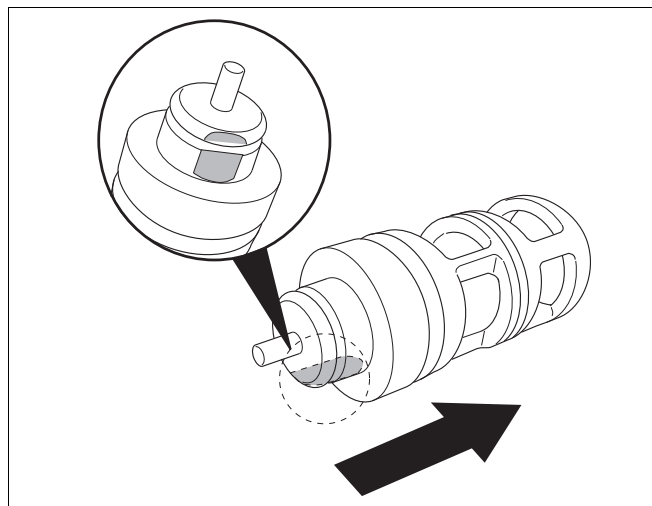

fig. 98 Internal mechanism of three-way valve
- Install the new internal mechanism in reverse order. Making sure that the flat side is facing down (see fig. 98).